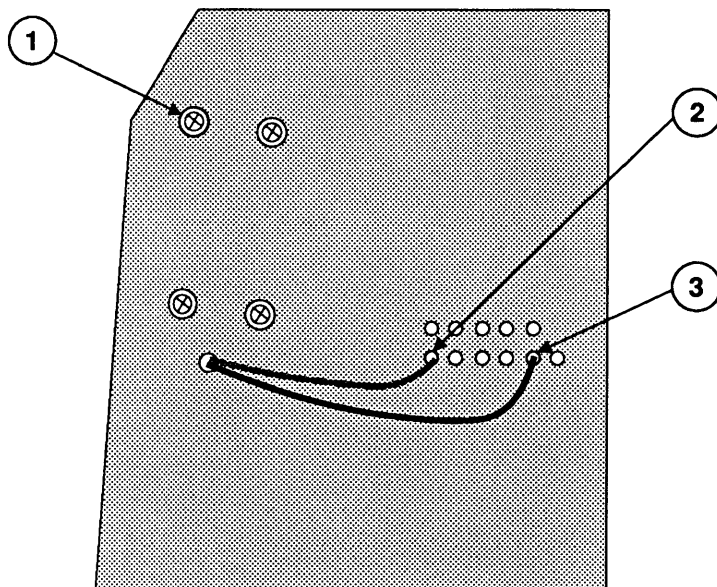

FIGURE 46
2. Holding the fan in place, turn the analog board over and install the four mounting screws (one is shown in Figure 46, #1).
4. On the noncomponent side of the board, solder the black wire to the first lower solder point (Figure 46, #2) of connector P3.
5. On the noncomponent side of the board, solder the yellow wire to the fifth lower solder point (Figure 46, #3) of connector P3.